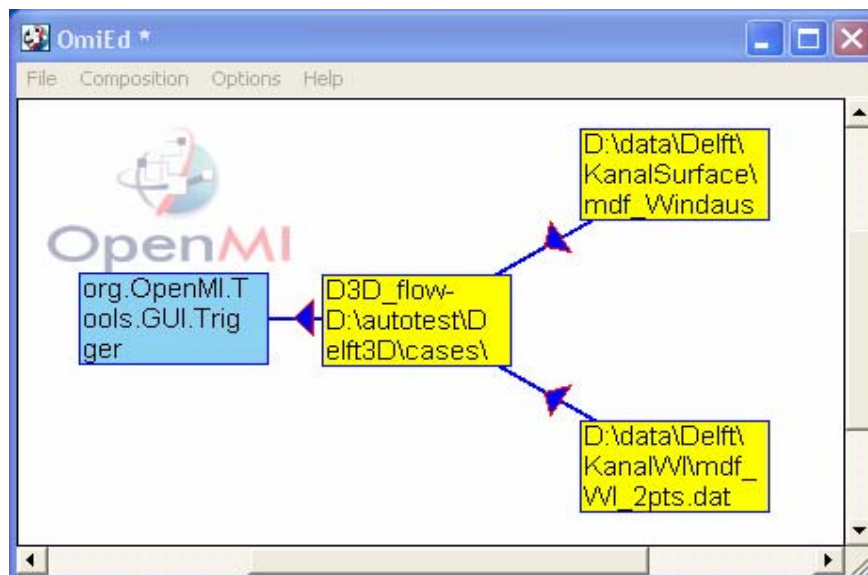

Fig. 1: OpenMI configuration editor with a network where data gets imported.
- **Fig. 1.** shows a network in the OpenMI configuration editor. The two components on the right provide the engine Delft3D-Flow in the middle with wind and waterlevel data. The component on the left side triggers the application.